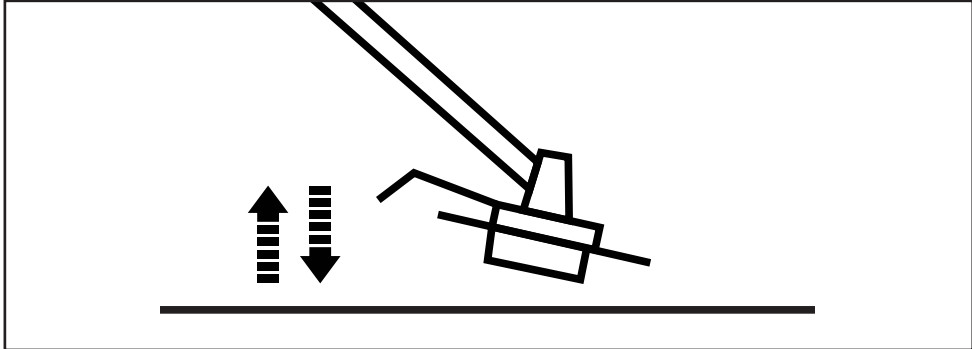

Fig. 14
- A cutting line cutter (D12) is integrated with the trimming guard (D13) and it cuts the line to a preset length (Fig. 14).